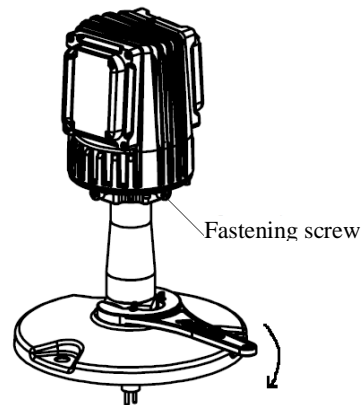

Figure 5-3
- Connect to secondary plug, screw frangible pole in flanges, and fix the lighting fixtures on chassis with elevated light nut wrench. (See Figure 5-3)